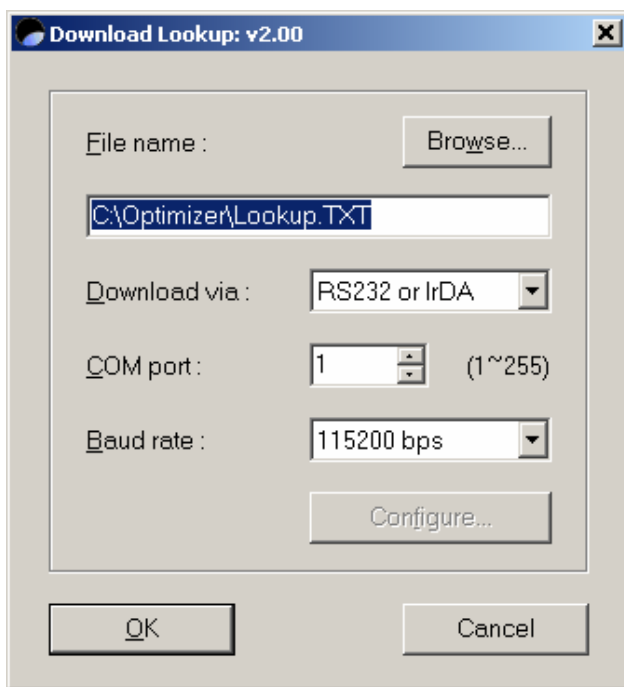

Figure 4: Lookup Download Window
11. After download is complete, the Optimizer window will come back up on the screen. The lookup file must now be downloaded to the unit. Choose the “Tools” menu item, then “Communication”, and finally “Download Lookup table”. The lookup download window will open (see **Figure 4**).